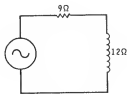

Figure 2-103
31. What is the impedance of the circuit shown in Figure 2-103?